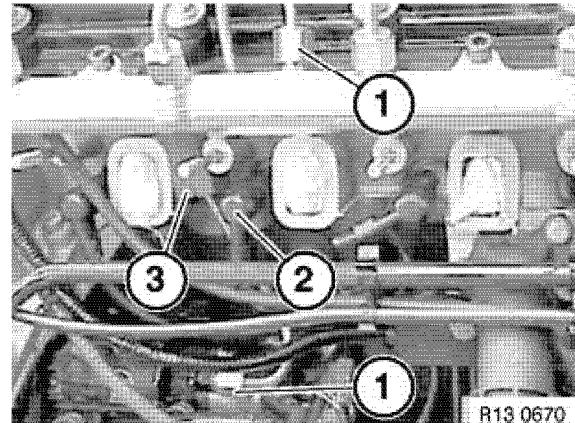

Figure 6-20
6. If removing high-pressure line between high-pressure pump and fuel rail (1, **Figure 6-20**), disconnect glow plug connector (if equipped) (2, **Figure 6-20**).
4BY3 Engines: Rubber mount (3, **Figure 6-20**) will be removed with the line.